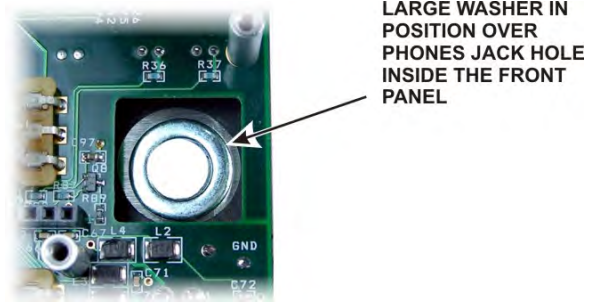

Figure 12. Phones Jack Washer.
□ A large, thick spacer washer should be lying on the front panel near the hole for the phones jack (see Figure 12). This spacer fits between the phones jack and the back of the front panel board to provide a solid mechanical ground connection when the boards are in place. Remove the washer and set it aside. If it's lying on the inside of the front panel you can tip the panel so it will slide out at the end.